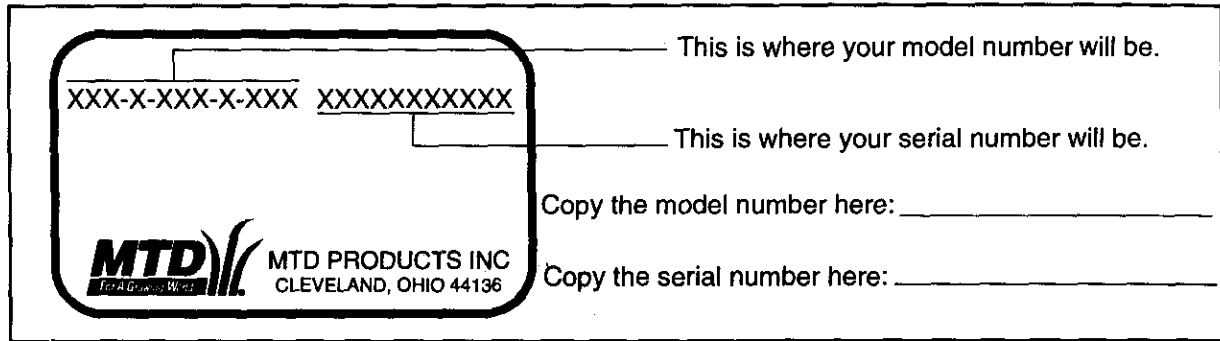

Figure 1
- Every snow thrower has a model plate. You can locate it by standing behind the unit in the operating position and looking down at the frame below engine. See Figure 1